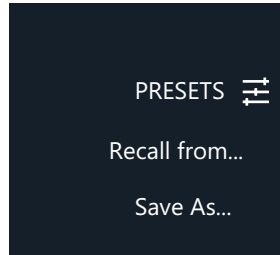

Figure 39. FPC 6000 Presets Menu
2. Open the **Presets** menu (see figure 39 on page 35).
1. Open the Presets Menu (see figure 39 on the previous page).